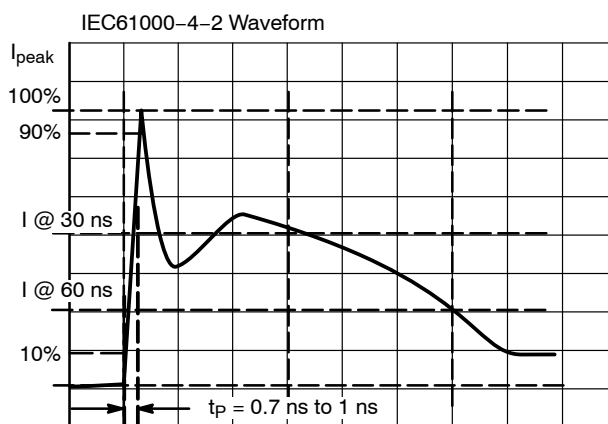

Figure 8. IEC61000-4-2 Spec
1. For test procedure see Figures 8 and 9 and application note AND8307/D.